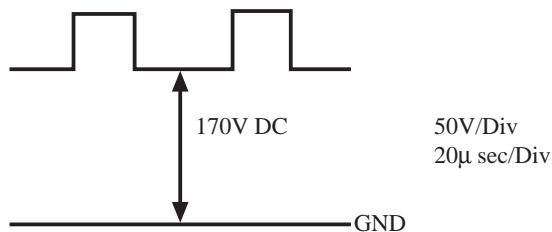

Fig 2-1
- (1) Short the IC501 Pin2 and Pin5 (or 11) and set the screen in single horizontal line.
- (2) Set the TV to the external input mode (no input).
- (3) Connect an oscilloscope to TP901 (JW901) Pin9 of S901 (on the NK C.B.).
- (4) Adjust SFR302 (Sub-bright) so the voltage at TP901 (JW901) Pin9 of S901 is  $170 \pm 5\text{VDC}$ . (See Figure 2-1)
- (5) Adjust the SCREEN VR (FBT) so that a horizontal line begins to appear at the center of the screen.
- (6) Release the short-circuit point.